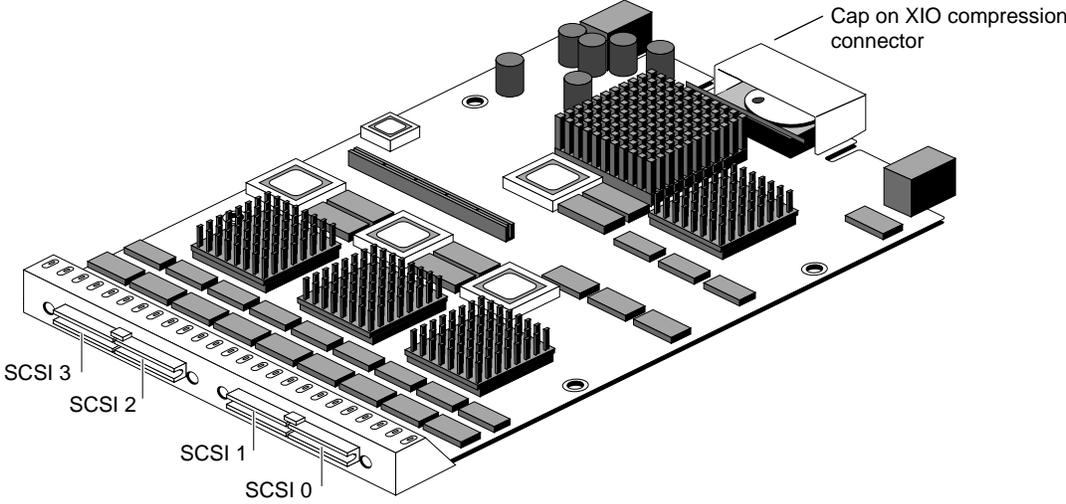

Figure A-1 OCTANE Ultra SCSI Option Board
2. Position the XIO module so that slots D and A are facing you. The graphics board is in slot A or D and A. Locate the Ultra SCSI board. (An illustration of this board is shown in Appendix A, Figure A-1.)